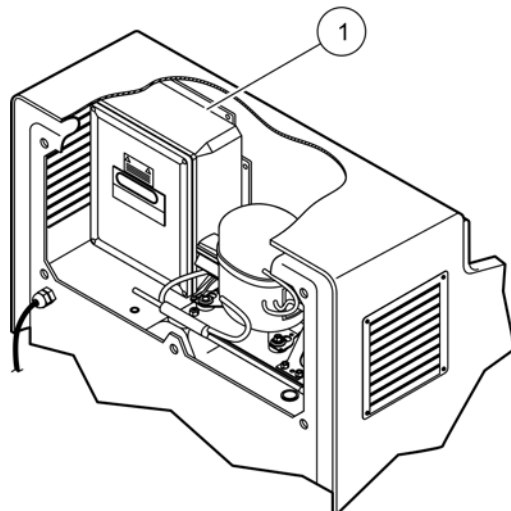

Figure 29 Power junction assembly thermal control box
The sampler refrigerator has an internal circuit breaker in the Power Junction Assembly Control Box located in the upper rear compartment (Figure 29). If the circuit breaker is tripped, it must be reset.
4. The circuit breaker is located on the inside left wall of the Power Junction Assembly Thermal Control box (Figure 29). Reset the circuit breaker by placing the handle in the up (ON, 1) position.